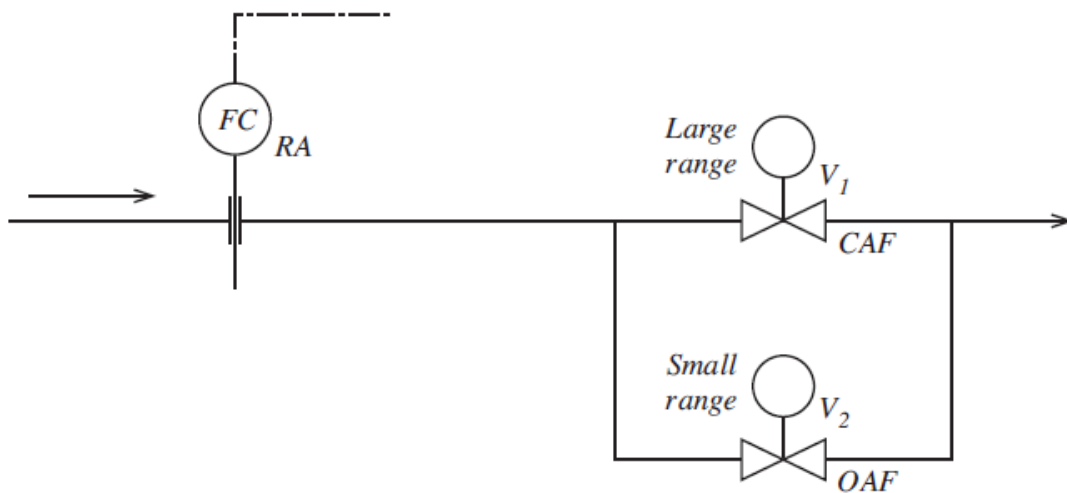

FIG. 5
7. FIGURE 5 shows a partially completed diagram of a flow control system. The flow controller is **reverse acting** and has a 0.2 to 1.0 bar pneumatic output signal which will supply both control valves  $V_1$  and  $V_2$ .